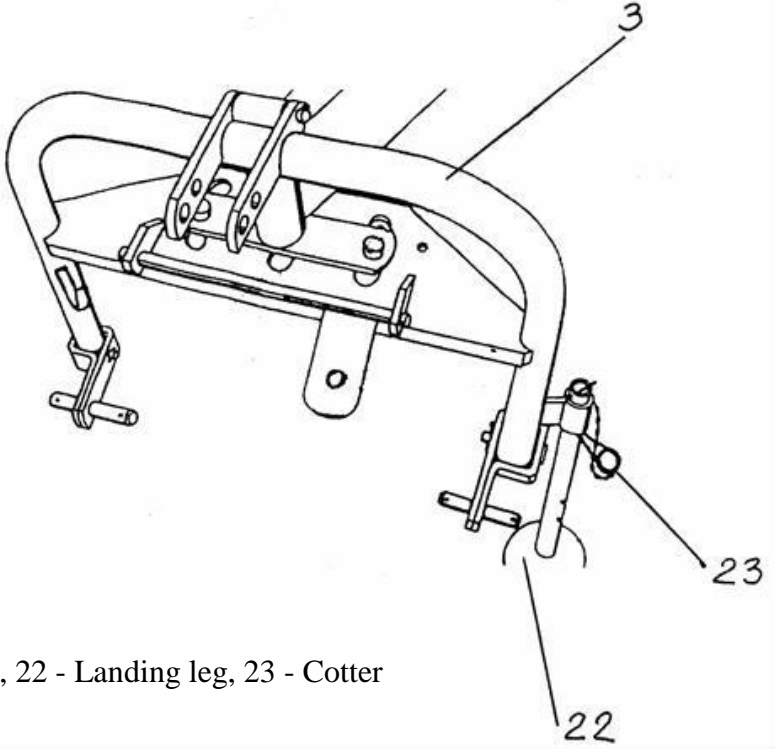

Fig. 13
- standstill - lower setting, as shown on figure 13
3. Set the landing leg in parking position, as shown in figure 13.